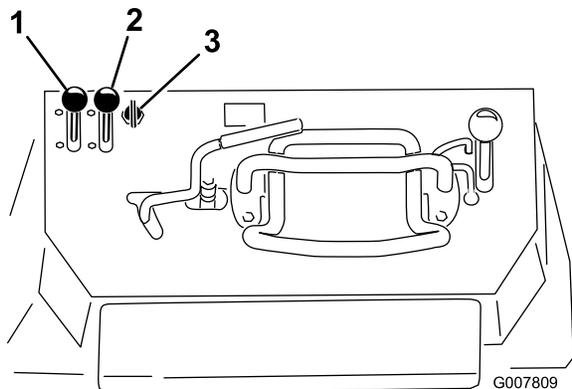

Figure 19
1. Move the throttle lever midway between Slow and Fast positions (Figure 19).
2. Move the choke lever to the On position (Figure 19).
- For an electric start model, turn the key to the On position (Figure 19). When the engine starts, release the key.
4. Gradually move the choke lever to the Off position (Figure 19). If the engine stalls or hesitates, engage the choke again until the engine warms up.
5. Move the throttle lever to the desired setting (Figure 19).
1. Move the throttle lever to the Slow position (Figure 19).
3. Turn the key off (Figure 19).